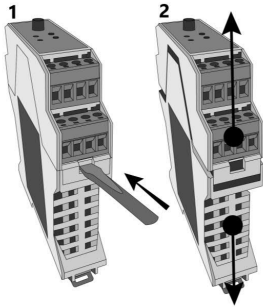

Fig. 4. Take off the case
- Open the controller case as shown in the fig. 4: